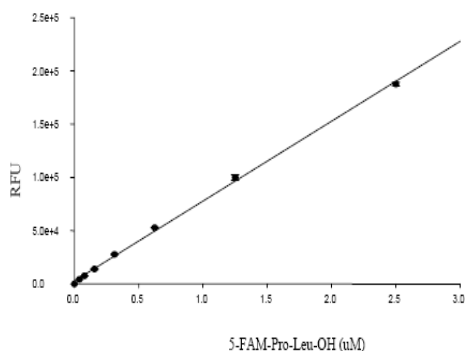

Figure 2. 5-FAM-Pro-Leu-OH reference standard curve.
- Plot 5-FAM fluorescence reference standard as RFU (relative fluorescence unit) versus concentration as in **Figure 2**.